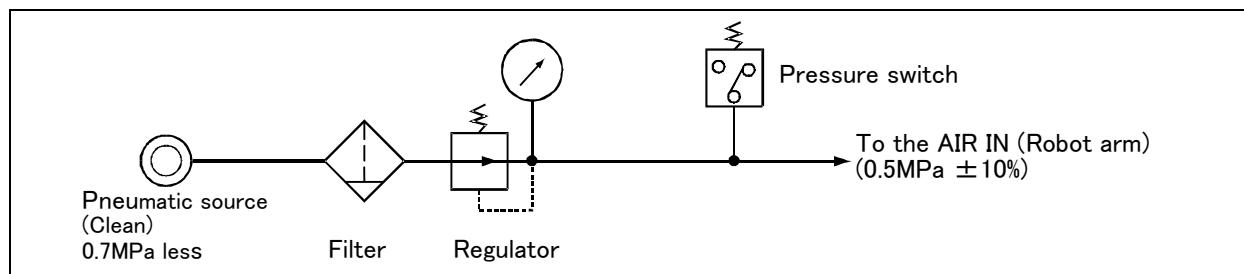

Fig.2-38 : Air supply circuit example for the hand
- (1) Make sure that a surge voltage protection circuit such as a diode is connected to the solenoid coil in parallel.
- (2) When the factory pneumatic pressure drops, as a result of the hand clamp strength weakening, there can be damage to the work. To prevent it, install a pressure switch to the source of the air as shown in Fig. 2-38 and use the circuit described so that the robot stops when pressure drops. Use a hand with a spring-pressure clamp, or a mechanical lock-type hand, that can be used in cases where the pressure switch becomes damaged.
- (3) The optional hand and solenoid valve are of an oilless type. If they are used, don't use any lubricator.
- (4) Supply clean air to the vacuum generation valve .
- (5) If the air supply temperature (primary piping) used for the tool etc. is lower than ambient air temperature, the dew condensation may occur on the coupling or the hose surface.